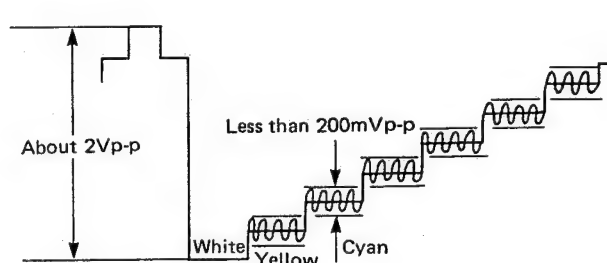

Figure 14
3. Adjust L1702 to set 3.58 MHz sub carrier at the minimum amplitude shown in figure 14.
5. Confirm that 3.58 MHz sub carrier portion of the cyan is less than 200mVp-p shown in figure 14.